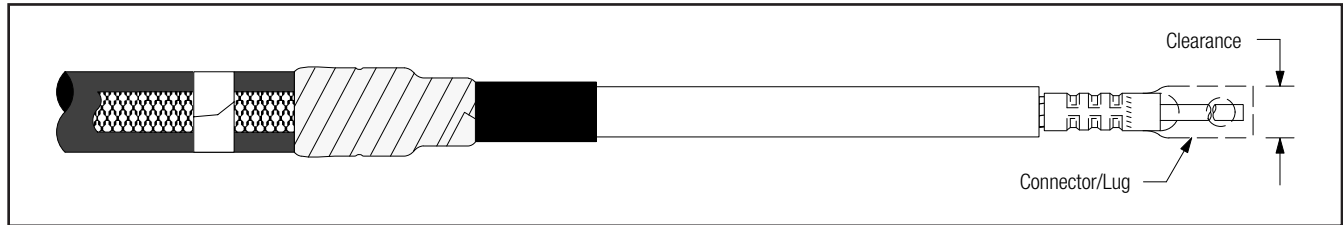

Figure 15
- 9.1 Check to insure 3M Cold Shrink QT-III Silicone Rubber Termination assembly fits over the selected lug or connector BEFORE installing the lug or connector.** If lug or connector (Figure 15) will not fit through the termination core, clean the insulation (per Step 10.0) and slide termination on cable before installing lug. **DO NOT REMOVE CORE AT THIS TIME..**